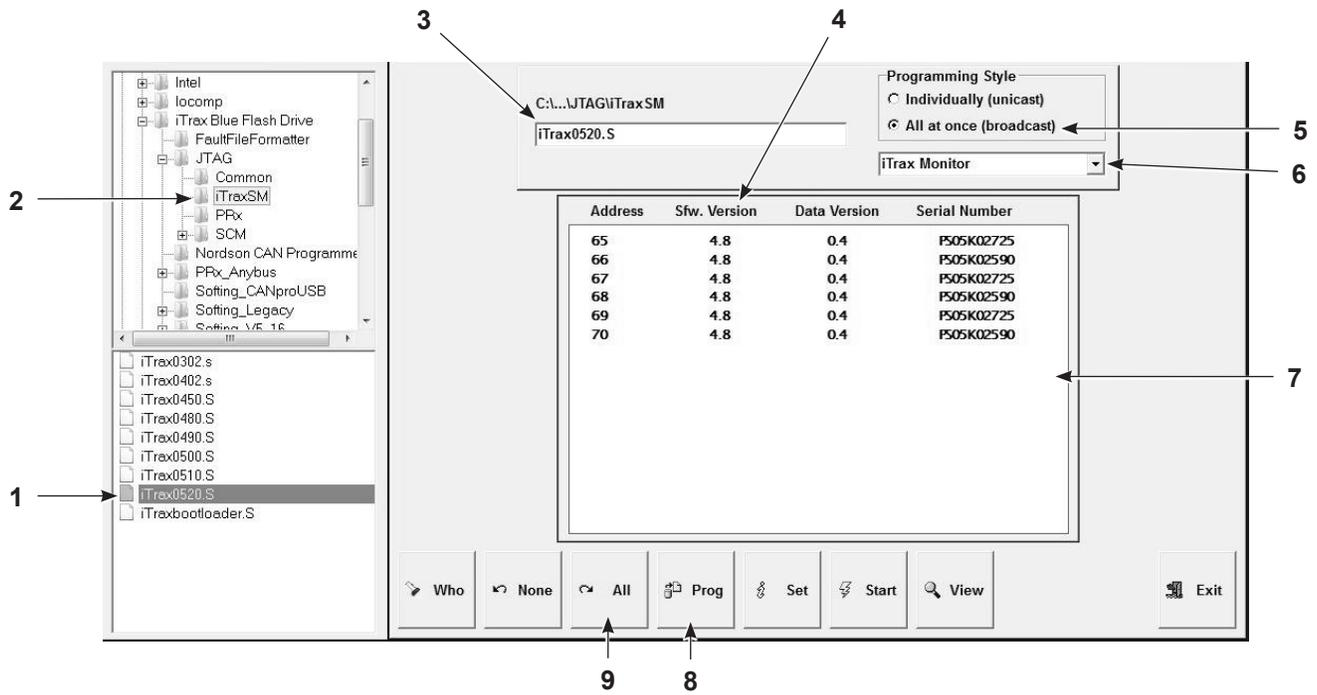

Figure 13 CAN Programmer Main Screen
See to Figure 13.
3. See Figure 13. Select iTrax Monitor from the list box (6). Once selected, the module address listing (7) will show selections for the iTrax monitor.
4. Navigate to C:\JTAG\iTraxSM (2) folder.
5. Select the S-record file iTrax0520.S (1) and the file name appears in the location field (3).
6. Select the All at once (broadcast) button (5) to allow all programs selected to update simultaneously.
7. Select the modules to be updated in the module address listing (7).
- NOTE:** If selecting all modules, use the All button (9) to quickly select all the listings.
8. Select the Prog button (8) at the bottom of the screen. Reprogramming the module should take about 1 minute. A progress bar will display indicating progress.